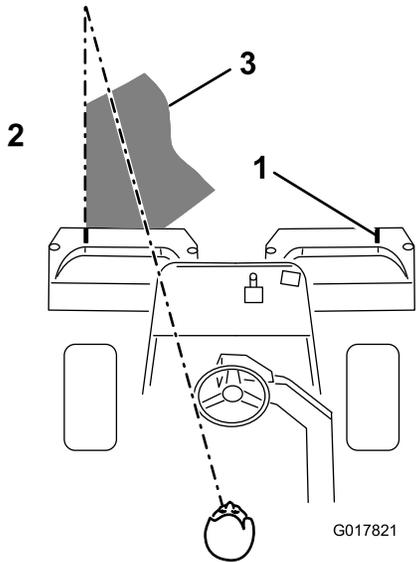

Figure 41
3. Overlap a minimal amount with the previous cut on return passes. To assist in maintaining a straight line across the green and keep the machine an equal distance from the edge of the previous cut, establish an imaginary sight line approximately 1.8 to 3 m (6 to 10 ft) ahead of the machine to the edge of the uncut portion of the green (Figure 41). Some find it useful to include the outer edge of the steering wheel
as part of the sight line; i.e. keep the steering wheel edge aligned with a point that is always kept the same distance away from the front of the machine (Figure 41).